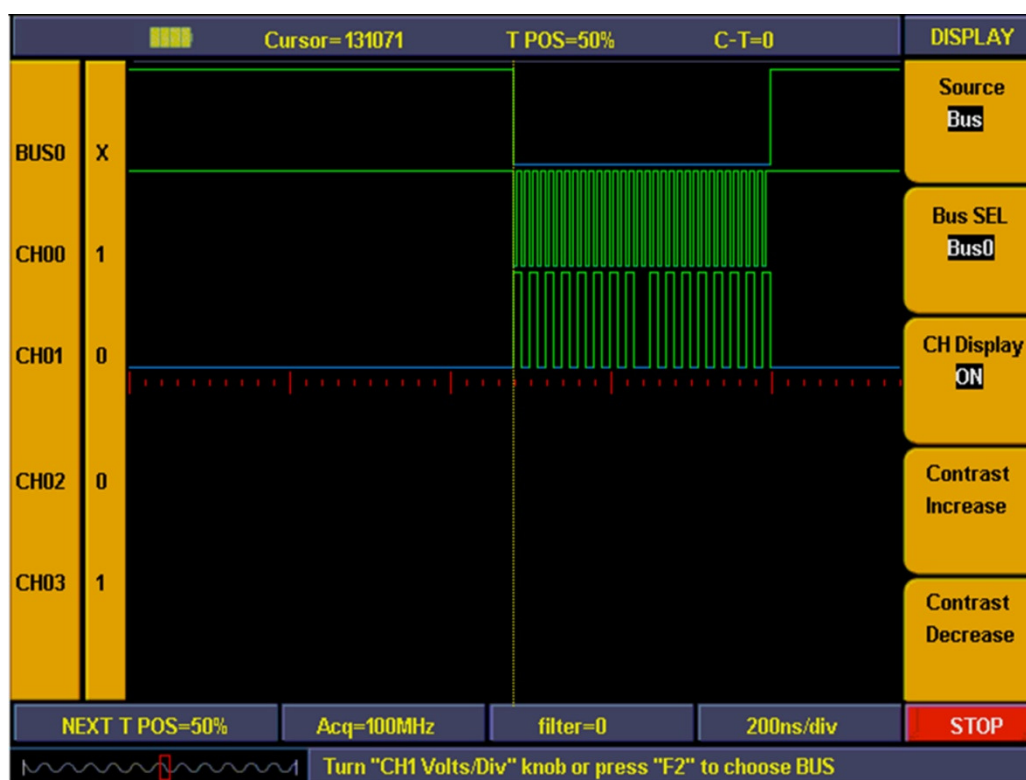

Fig. 14
7. Press "**F3**" and set signal sources as "**OFF**". Repeat operation of steps 6.7 and set BUS1, BUS2, BUS3 all as "**OFF**". Ref to Fig. 14.